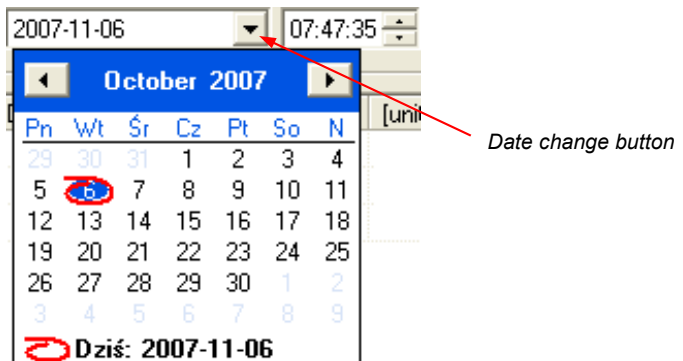

Figure 4.4. Changing the "From date"
- 1) In order to change "From date", click onto the arrow on right side of the date (Figure 4.4). The calendar window will open: